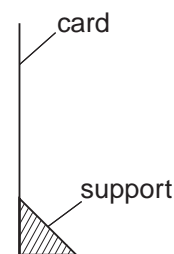

Fig. 4.3
- (iv) Screen (a white sheet of stiff card approximately 150 mm \times 150 mm, fixed to a wooden support, is suitable. See Fig. 4.3.).